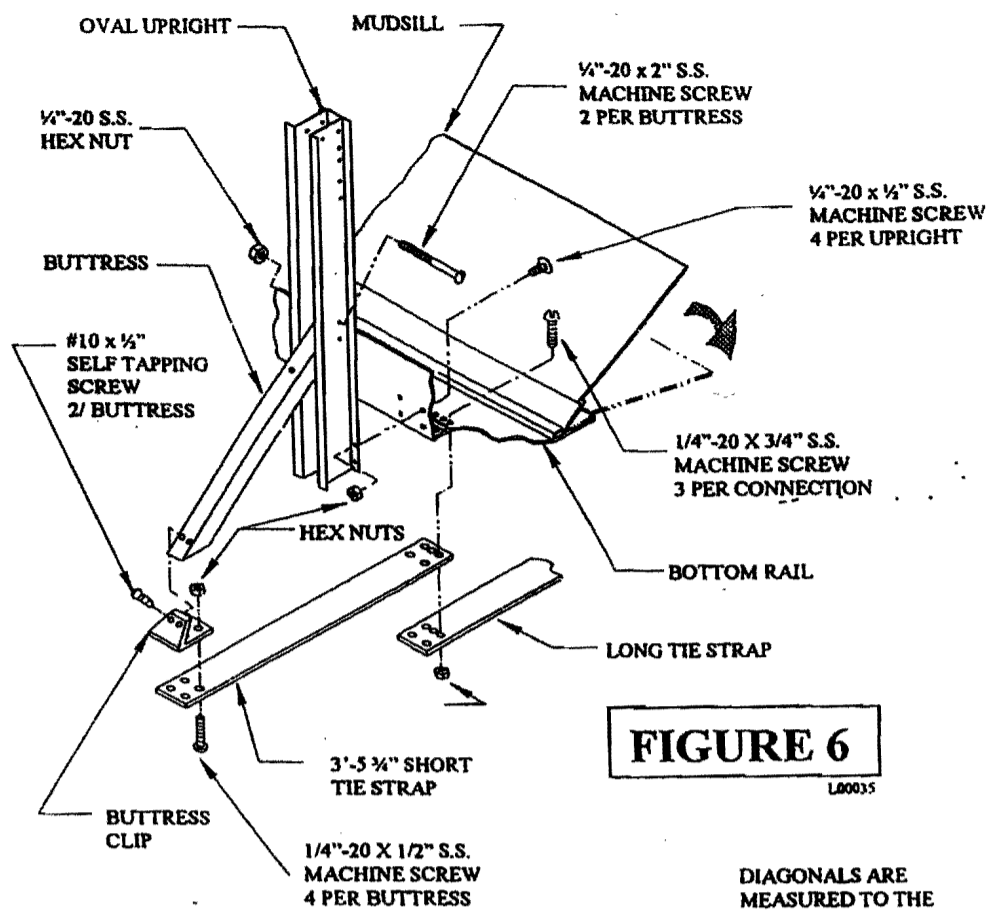

FIGURE 6
Step 4: See Figure 6. Attach butress clips to the ends of the short tie straps. The nuts must be on the top side. Interlock the mudsill to the bottom rail and fasten the short tie strap and the long tie strap to the bottom rail and mudsill. The screw heads must be on top for these joints as shown.
Step 5: See Figure 6. Attach the oval uprights to the bottom rail with 4 bolts. Attach the butress to the upright and butress clip as shown. Place a 4" x 8" x 16" solid cap block under the butress clip. Dig 4" down in the area of the block and level the block.